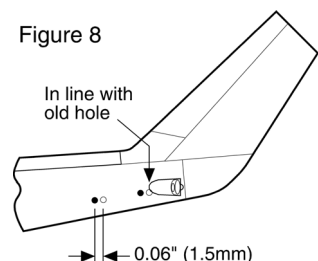

Figure 8
9. After RWRs are mounted on the tailboom just aft of the small towel-rack antennas. Move the mounting holes for these forward by 1/16" (1.5mm) and fill the old holes. File off the small taillight fairings just aft of these. The aft RWRs (part 10) mount where indicated in Figure 8. Note that these should be horizontal, not aligned with the tailboom. Use a half-round file or sandpaper wrapped around a 3/4" tube, and gently radius the back of the part at a slight angle. Glue and fill seams.